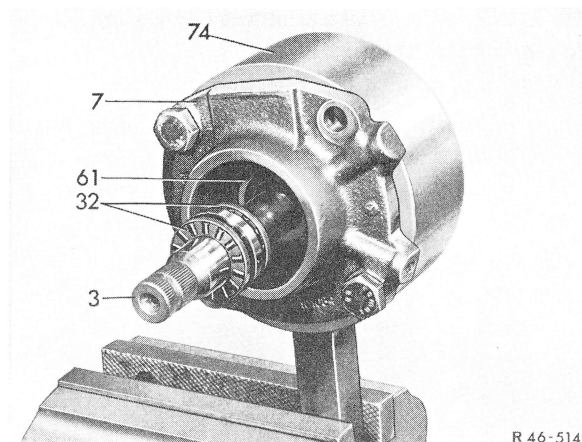

Fig. 17
17 Remove steering worm (3) from bearing cap (7), take axial cyl. roller cage (32) from steering worm (Fig. 17).